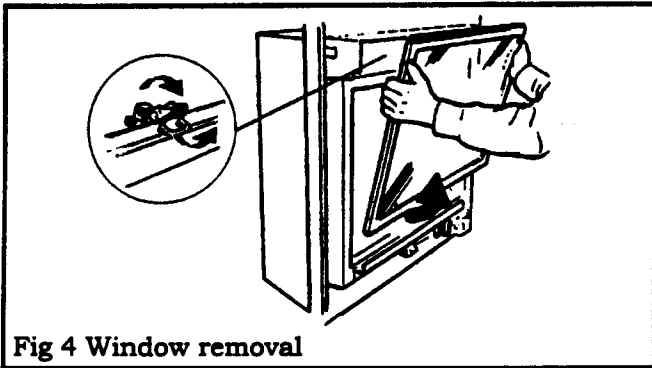

Fig 4 Window removal
6.1. Detach the window unit by releasing three toggle catches at the top and lifting the window clear (figure 4)